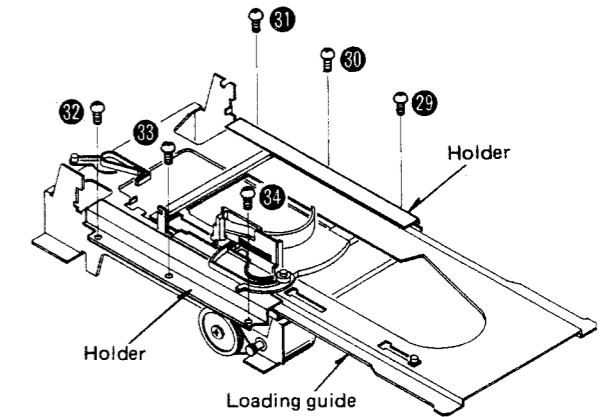

Fig. 17
2. Remove the 6 setscrews [Fig. 17: 29 ~ 34] on the right and left side of loading guide holder. Then the loading guide can be removed.